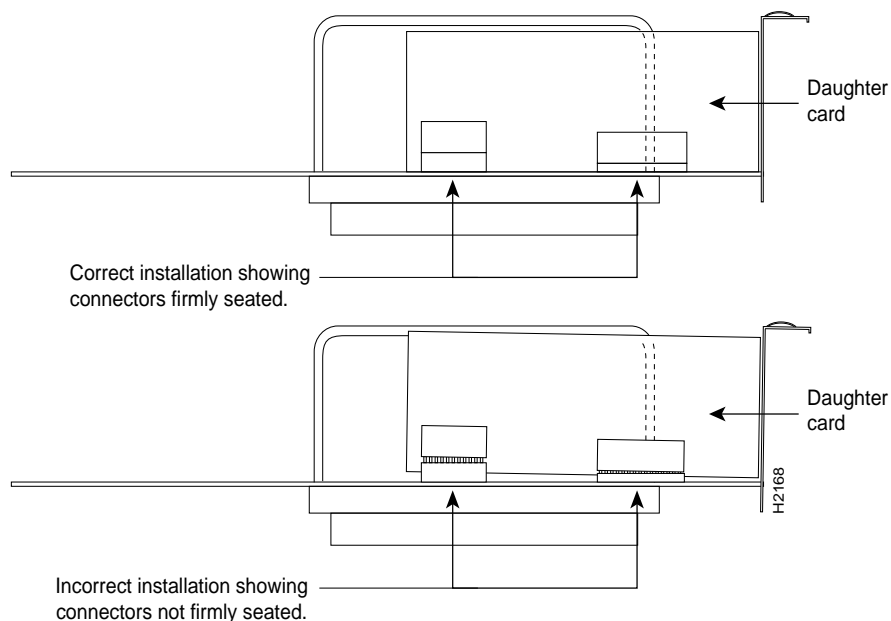

Figure 5 Network Processor Module Daughter Card Connections
Caution If any of the network processor modules have daughter cards projecting at right angles to the module (see Figure 5), be careful not to cause the module to bow during installation; the daughter cards can become disconnected. If this happens, carefully reseal the daughter card connectors by handling the card by its edges without touching any of the components on the card.
Step 1 Hold the network processor module by its handle, align it with the grooves in the chassis (not shown) and over its connector, and push the network processor module lightly against the chassis wall. (See Figure 5.)